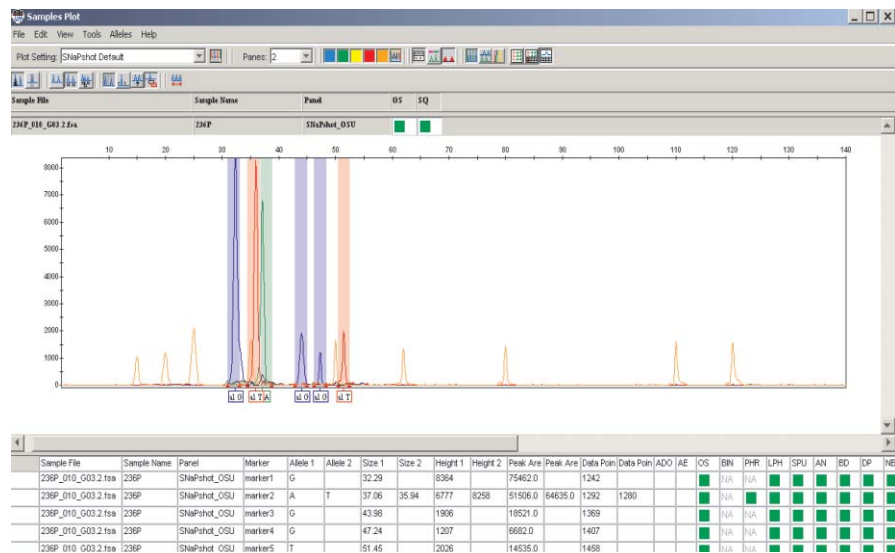

Figure 10 Multiplexed SNaPshot Kit reaction using POP-7 polymer and a 36-cm array on the 3730 DNA analyzer
8. Run the sample plates and analyze the results with GeneMapper Software v3.7 or higher for simultaneous sizing and genotyping (see Figure 10).
Figure 10 shows a multiplexed SNaPshot Kit reaction using POP-7 polymer and a 36-cm capillary array on the Applied Biosystems 3730 DNA analyzer. The data was analyzed by GeneMapper Software v3.7. The color bars represent bins used for allele calling. The GS120LIZ size standard was used for sizing. The analyzed data can then be exported in a tab-delimited Microsoft Excel® Software spreadsheet.
The Autoanalysis Option in the Data Collection software run on the 3130/3130xl Genetic Analyzers and the 3730/3730xl DNA Analyzers automates all steps from addition of samples to running the analysis; the user only reviews the analyzed results. GeneMapper software contains a SNaPshot Kit specific analysis method designed to recognize and analyze SNaPshot Kit data. Once the mobility of the extended products has been determined, bins representing the actual allele size range and dye color for a given SNP can be assigned. The software uses bins to make the actual allele call (see Figure 10 on page 11). Once these bins have been set up, the software automatically assigns genotypes to samples at the end of the analysis. These bins are saved and reapplied automatically to all subsequent projects that use the same set of SNPs enabling a streamlined workflow from sample loading, data collection, data analysis and genotype results generation. Please refer to the *GeneMapper® Software v3.7 User Guide* (PN 4359413) for more detailed information on data analysis.